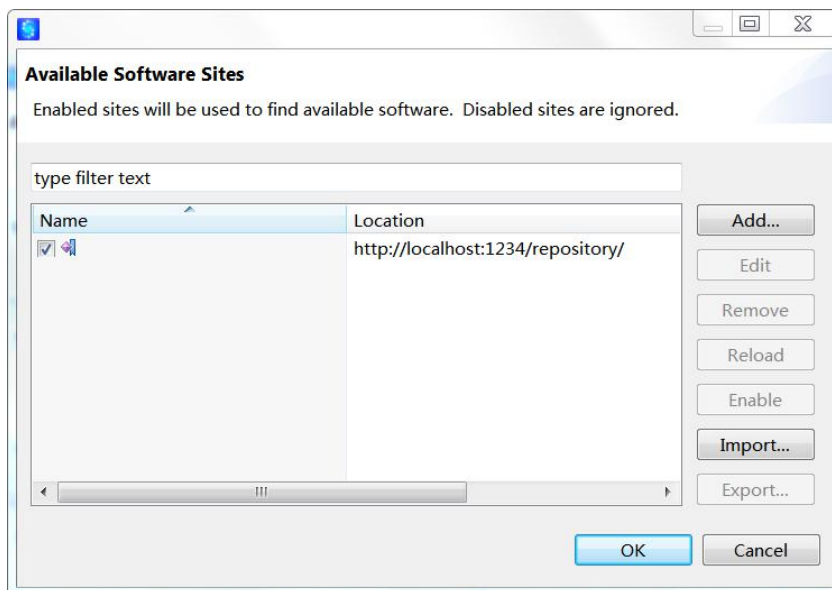
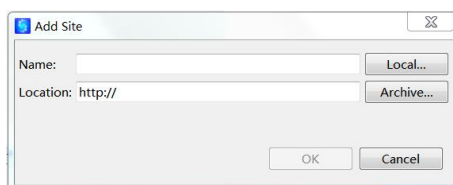
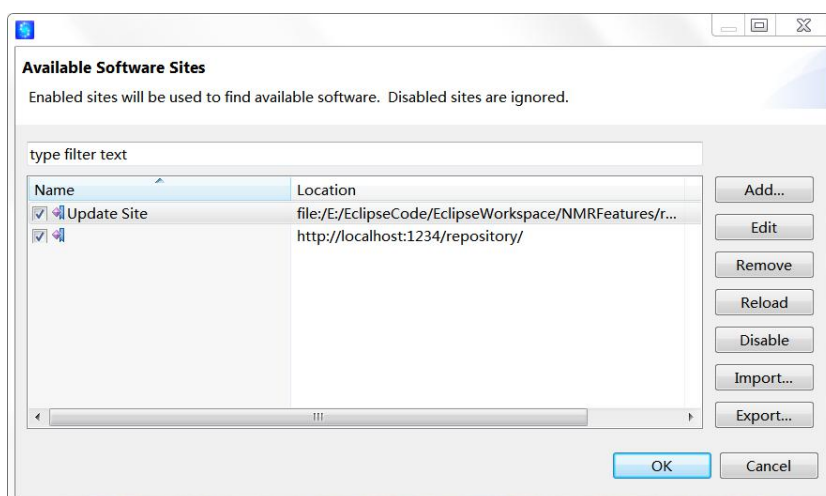

Figure 4.2 Plugin address management dialog
Figure 4.3 Add plugin address dialog
Figure 4.4 Plugin address management dialog
1. Click the hyperlink Work with the list of software sites below **Add** button to open a dialog box (Figure 4.2):
2. Click **Add** in Figure 4.2 to open a new box (Figure 4.3), then click **Local** to find the local directory where plug-ins are located (e.g. F:/Git/Features/repository), and click **OK** to return to the above dialog box (Figure 4.4).